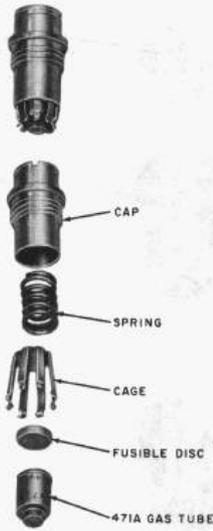

Fig. 6—11B1A Protector Unit
3.05 The **123E1A protector** (Fig. 5) provides protection for one pair of wires and is intended for use at stations served by cable or multiple wire having a high level of lightning activity. It consists of a nonconductive base containing three binding posts and two 11B1A gas tube protector units (Fig. 6). The 123E1A protector
Note: The 11B1A protector unit (Fig. 6) incorporates a 471A electron (gas) tube which provides nominal 500-volt protection. The ultimate failure mode of the 11B1A protector unit is a short circuit (to ground); therefore, it does not require the use of carbon blocks in parallel. The 471A tube is mounted in a brass cap along with a stainless steel spring, a fusible disc, and a solder tinned brass cage. These parts are arranged so heating of the tube melts the fusible disc and allows the cage to contact the grounded surface of the station protector. This short-circuits the gas tube and provides a path to ground. During